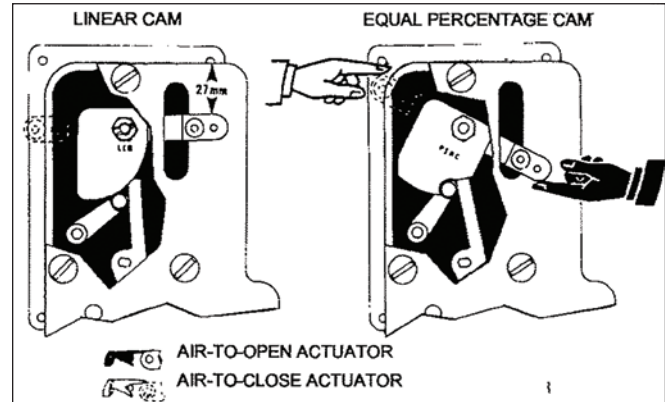
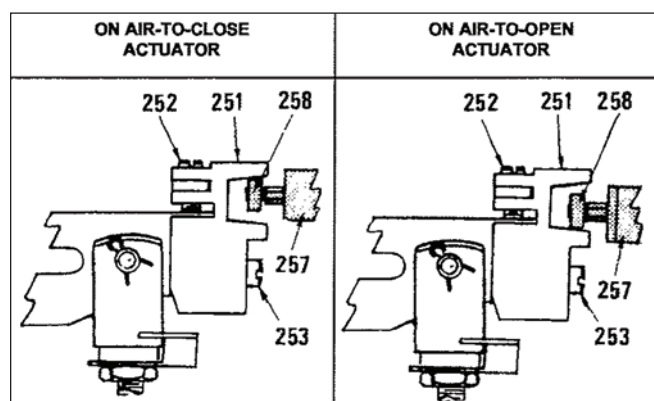

Figure C8 - Reference position of the cam/back lever S/A
Figure C10 - Operating face of the coupling (251)
3. Turn biasing spring adjusting screw (52) until the rear lever is in horizontal position. This reference position can be considered as reached when the distance between the top of the rear lever (257) and the upper edge of the support plate (254) measured with a rule is equal to 27 mm (see figure C8).
screw turn after the bearing-to-coupling contact) (see figure C10).
3. Press by finger the rear lever (257) so that the roll of the lever (82) is just settled in the concave part of cam profile. This reference position is correct only if you feel a tough point at the beginning of the rear lever movement (see figure C8).
4. Maintaining the rear lever in this position, turn biasing spring adjusting screw (52) till the moment when the plug takes off from its seat. The precise point of the plug opening will be indicated by the comparator pointer.
5. Go on with maintaining the rear lever in its reference position (step 7) and turn the coupling adjusting screw (252) so that the operating face of the coupling (251) has just come into contact with the bearing (258). Tighten the screw (253) (see figure C10).